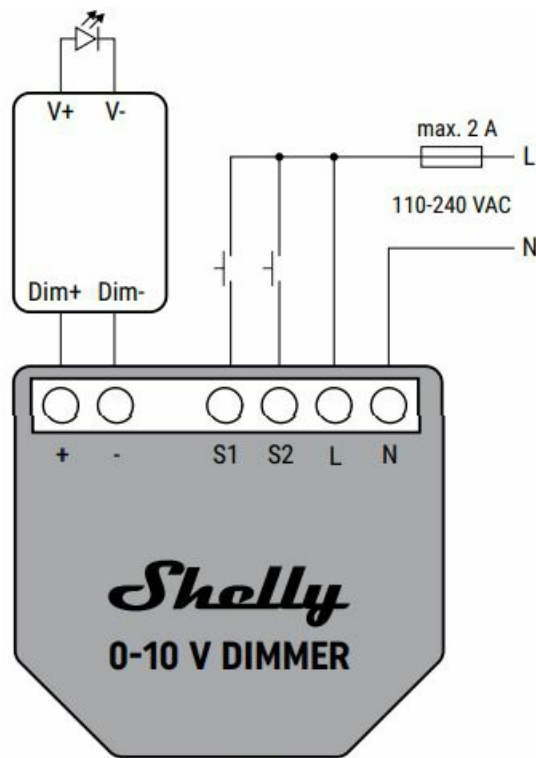

Fig. 1
Refer to the schematic diagram (Fig. 1 or Abb.1) for proper wiring:
- Connect the Device positive output to the LED driver 0-10V positive input and the Device negative output to the LED driver 0-10V negative input as shown in Fig. 1.